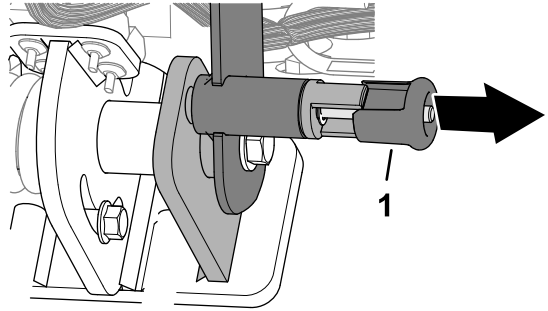

Figure 67
1. Pull the knob for the handlebar latch (Figure 67).